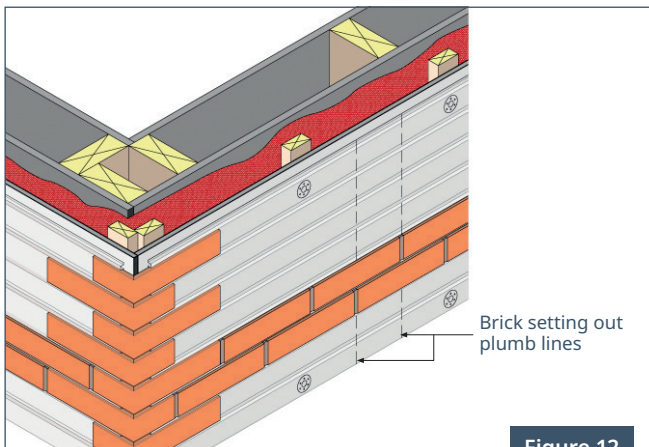

Figure 12
2. To determine brick spacing and setting out, apply a 10-12mm bead of adhesive to two courses on the panel and fix slips along two courses as far as the first natural break (door/corner/expansion joint). Try to space bricks with 10mm vertical joints, but so the end of the run finishes with a whole or half brick. Joints can be opened or closed within a range of 7 or 8mm to 15mm to assist. Joints should be a consistent size. See Figure 12.